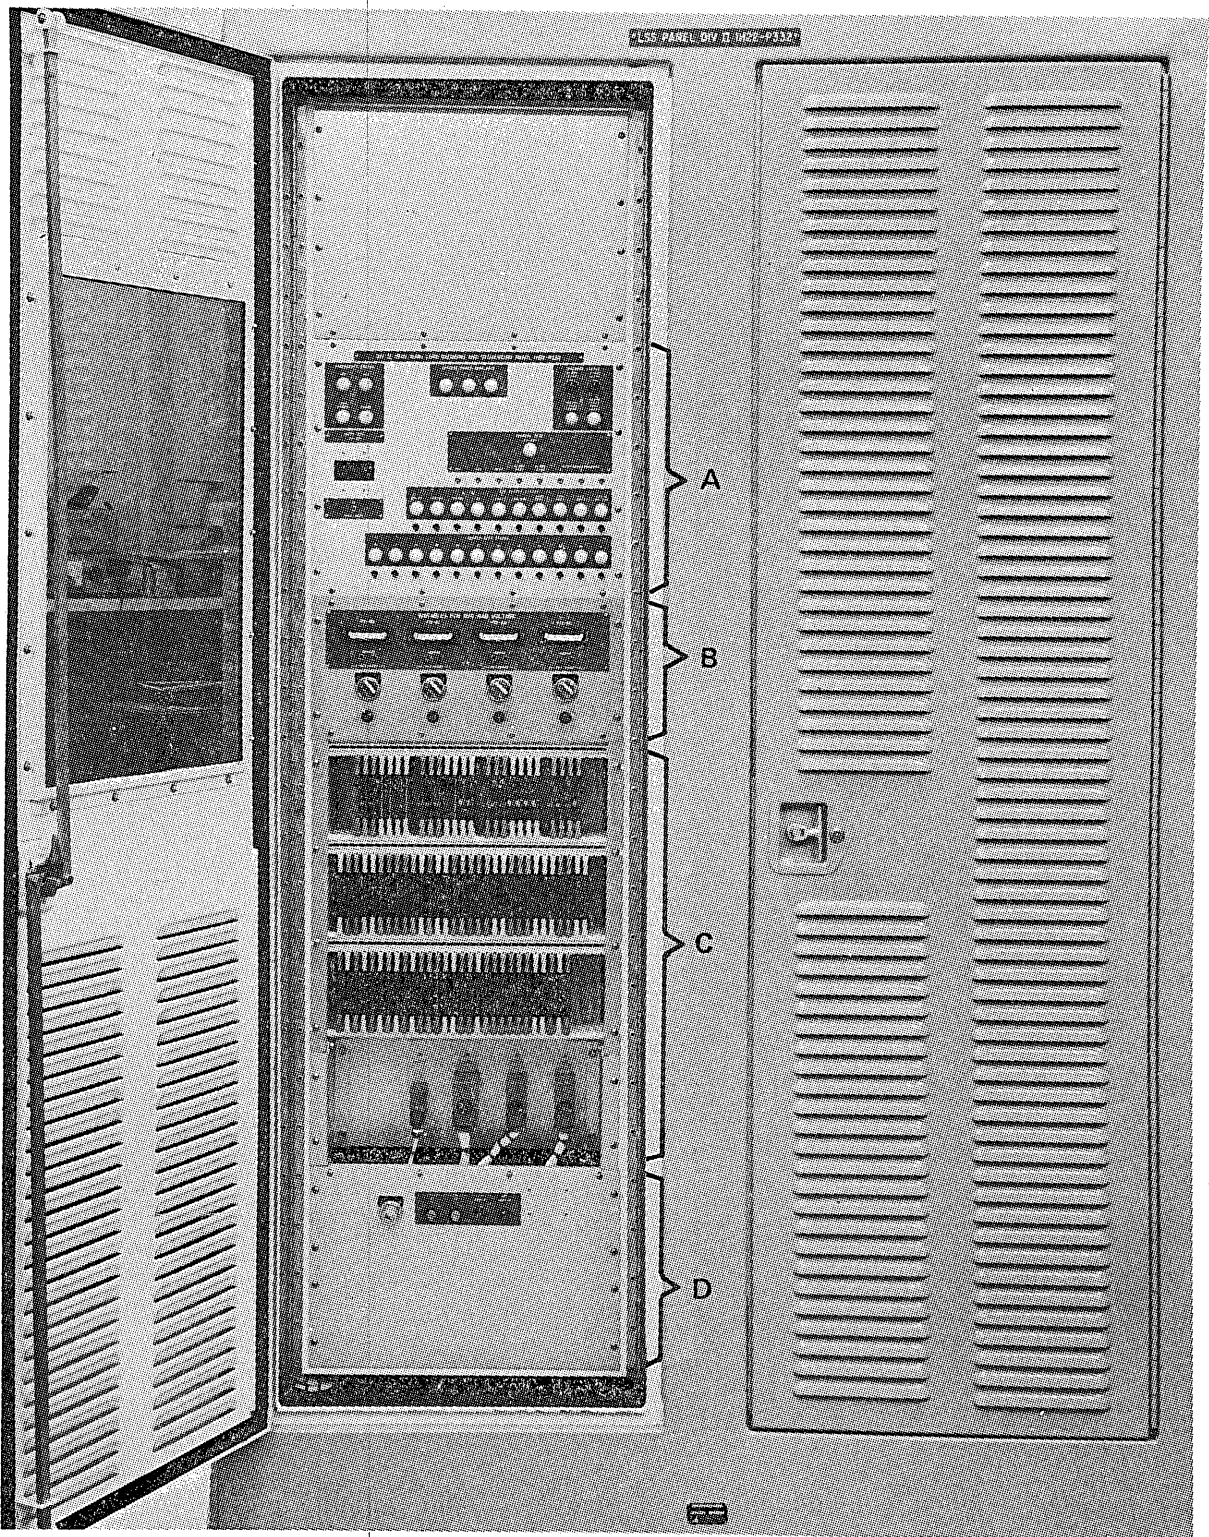
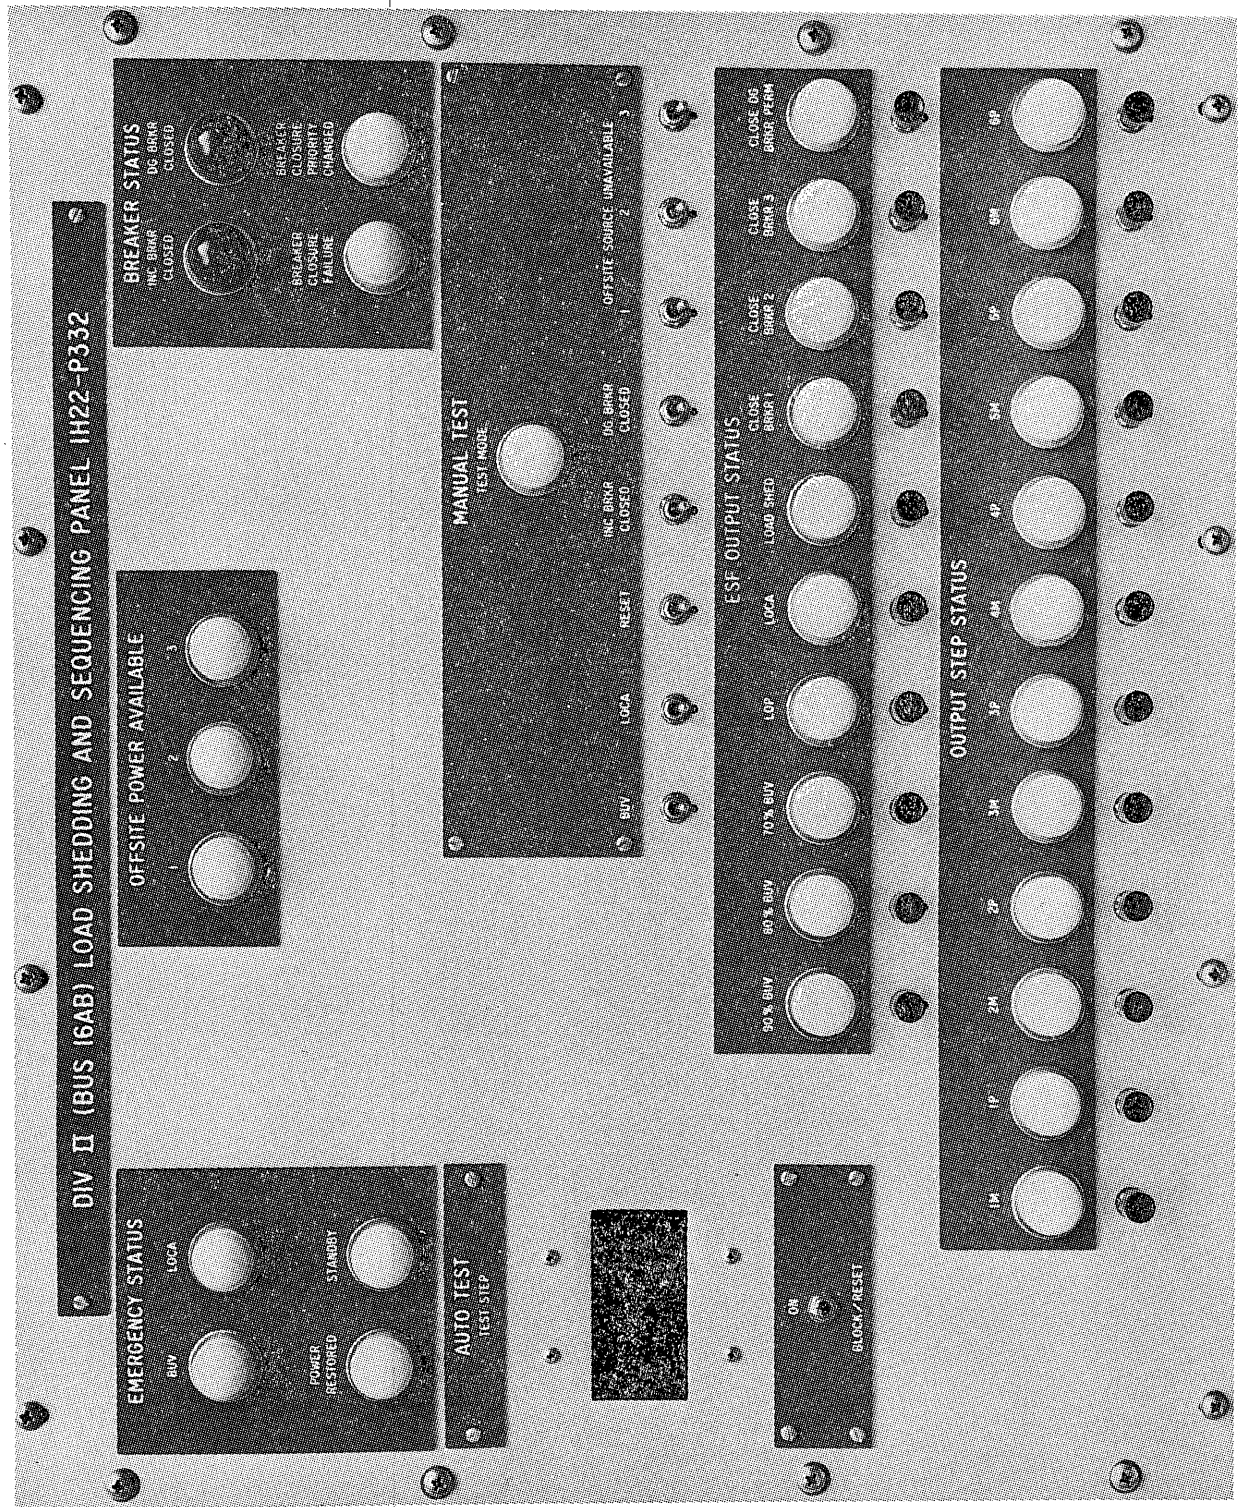

Figure 2. LSS Panel - External View
Figure 4. Control Panel
Each LSS panel is housed in a separate independent, free-standing, two-bay cabinet (see figures 2 and 3), weighing approximately 1800 pounds. The cabinets are 90 inches high, 58 inches wide, and 36 inches deep.
An LSS panel assembly (see figures 2 and 3) contains the following:
For cabinet assembly details, see callouts in figures 2 and 3. The control panel (A), as shown in more detail in figure 4, contains switches which provide control and test capability and indicators which display system status.
The control panel (see figure 4) provides a centralized location for test and monitor functions. Control panel switches and indicators are listed and described in table 1.